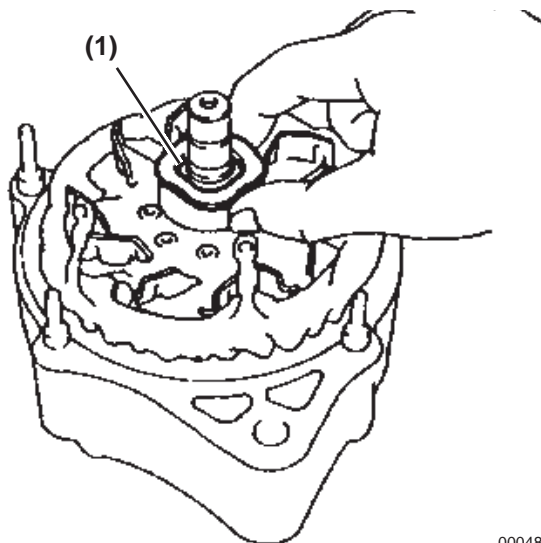

Figure 11-36
2. Install the rectifier end frame onto the rotor and drive end frame then install the alternator washer (**Figure 11-36, (1)**) above the rotor.